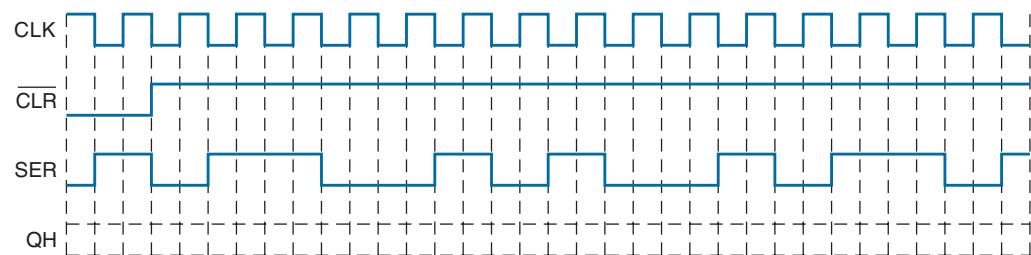

FIGURE 7-116 Problem 7-68.
- B** 7-68. Repeat Example 7-20 for the input waveforms given in Figure 7-116.